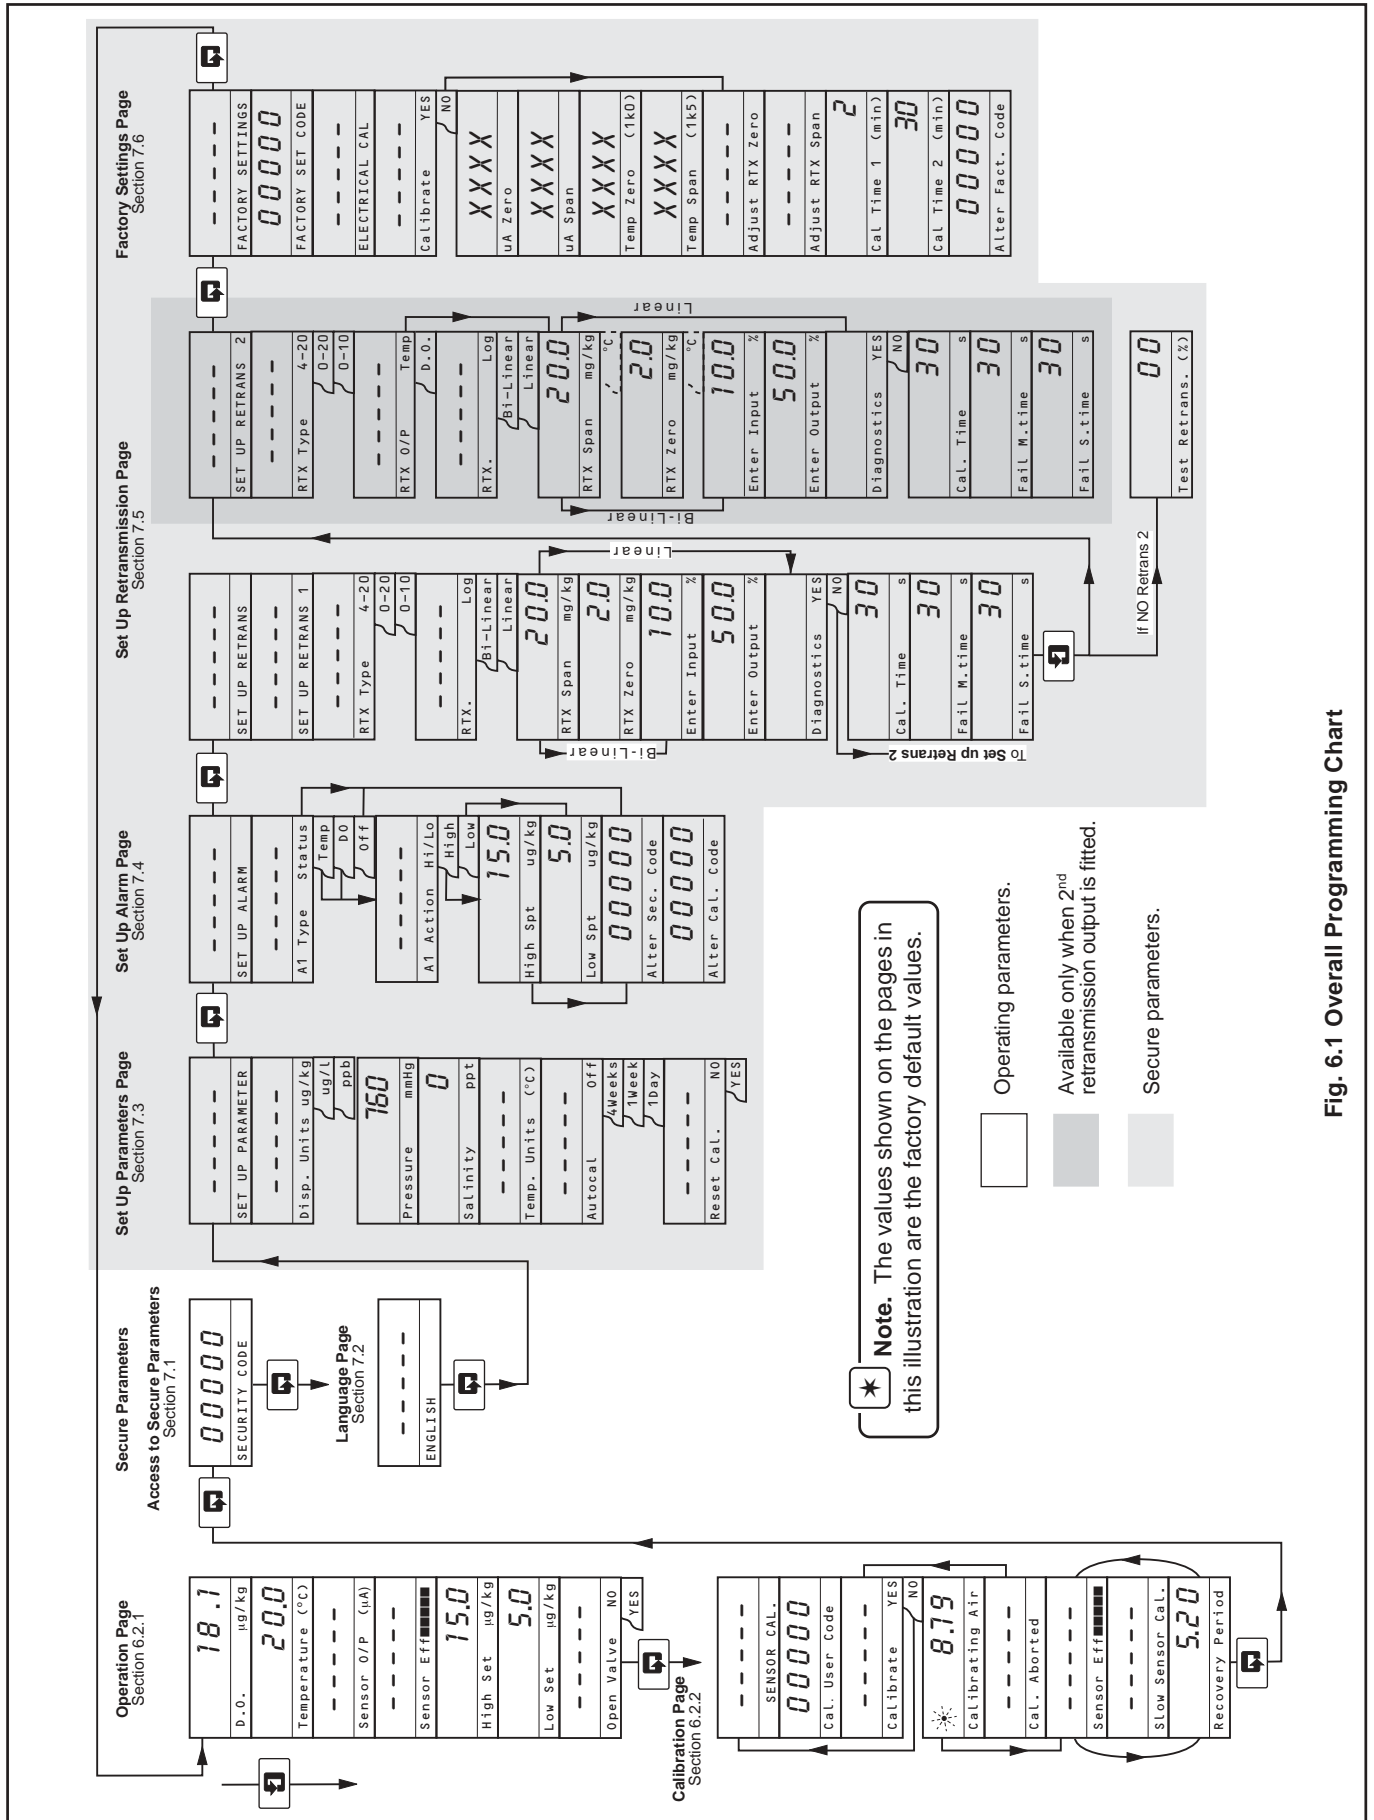

Fig. 6.1 Overall Programming Chart
6.1 Instrument Start-up – Fig. 6.1
The overall operating and programming chart is shown in Fig. 6.1.